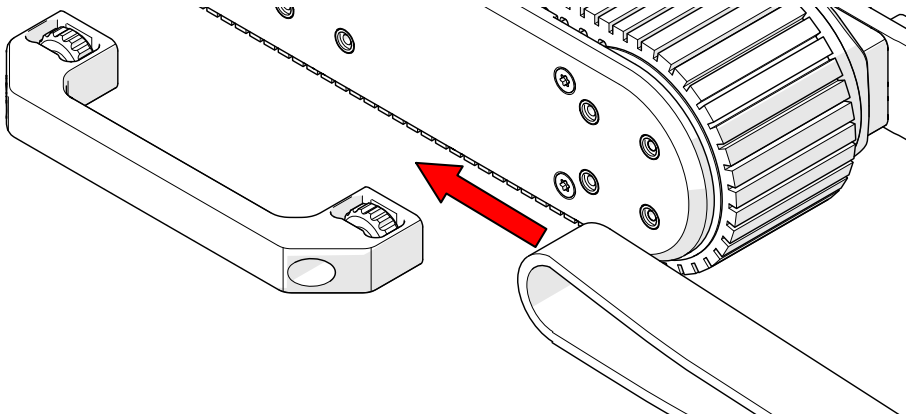

Fig. 43 - Hook sling between handle and scanner
2. Hook the sling between the handle and the scanner on both sides (Fig. 43).